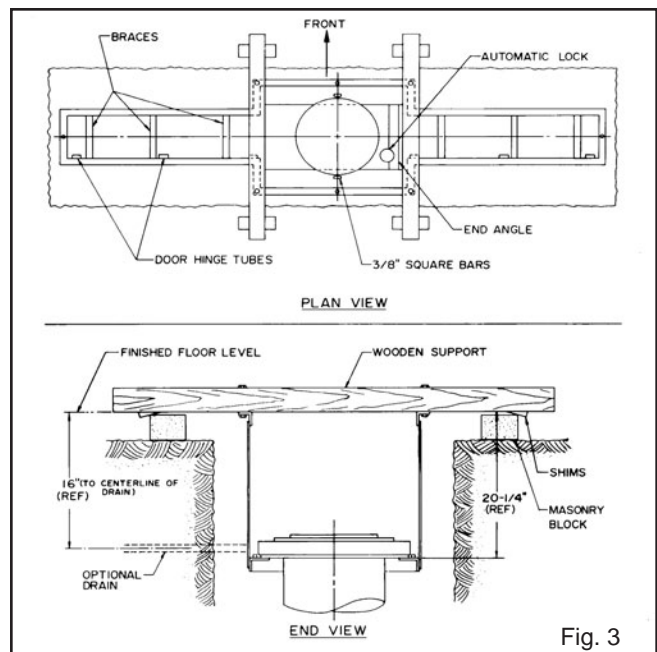

Fig. 3
5. TRENCH BOX ASSEMBLY. The trench box is shipped assembled. There are (2) 1-1/4" angle braces attached to the upper portion of the box. "DO NOT REMOVE THESE BRACES AT THIS TIME." Cut (6) 2 x 4 braces 9-3/8" long and nail them thru the 3/16" diameter holes provided in the sides of the box. Additional braces should be provided at the top of the trench box to maintain 9" box width between angles. "THESE BRACES MUST BE INSTALLED BEFORE BACKFILLING OR POURING CONCRETE IN OR AROUND THE TRENCH BOX IN ORDER TO PREVENT DISTORTION. IT SHALL BE THE RESPONSIBILITY OF THE INSTALLER TO BRACE THE TRENCH BOX SUFFICIENTLY SO THAT NO APPRECIABLE DISTORTION OCCURS."
6. BOX SUPPORTS. Fasten wooden supports securely to top of trench box through holes provided in corners of frame (See Fig. 3). These are to be provided by contractor. DO NOT REMOVE 1-1/4" ANGLE SHIPPING BRACES FROM TOP FRAME.
7. SETTING THE TRENCH BOX. Lower trench box into excavation until supports rest on masonry blocks approximately even with finished floor level. (See Fig. 3)
IMPORTANT: AUTOMATIC LOCK MUST BE ON SIDE OF BOX WITH NOTCH IN END ANGLE AND POSITIONED TOWARD SIDE OF FRAME WHERE DOOR HINGE TUBES ARE WELDED (SEE FIG. 3).
9. a drainage should be made by using one or more of the 4 knock-out holes located in center section of box. (See Fig. 3)
10. LEVELING. Level top of trench box in both directions adjusting shims under wooden supports (See Fig. 3). Check top of plunger with level in both directions and readjust shims, if necessary, to make cylinder assembly level and plumb. Pour concrete around sides of cylinder base, work concrete under cylinder. Recheck top of plunger to insure that it has remained level during this operation (See Fig. 5).